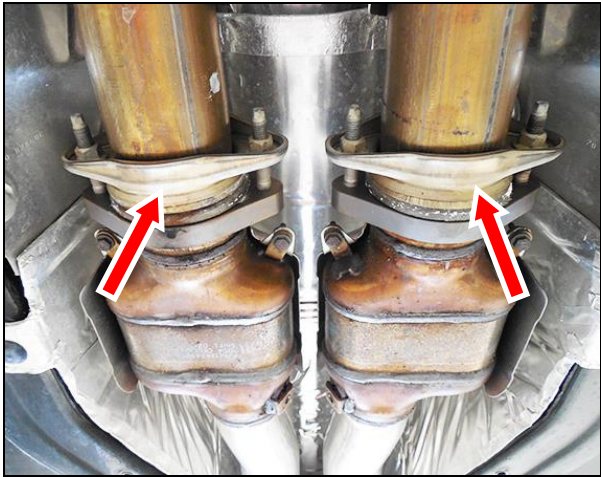
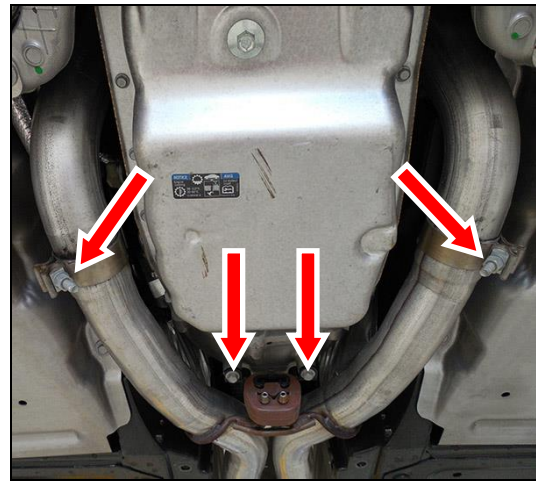

Figure 4
Figure 5
8. Support the X-pipe and remove the (x4) 15mm nuts at the flanges on the down pipes (**Figure 4**). Loosen the 15mm clamp bolts at the slip joint connecting the X-pipe to the over-axle pipes (**Figure 5**). Remove the (x2) 13mm bolts at the center support hanger on the X-pipe (**Figure 5**). Remove the X-pipe from the over-axle pipes.
6. Install the X-pipe with cats onto the down pipes and tighten the (x4) 15mm nuts to allow for adjustment. Support the X-pipe assembly. Install the center support hanger assembly and tighten the (x2) 13 mm bolts (**Figure 5**). Adjust the position of the cats if necessary and tighten the (x4) 15mm nuts (**Figure 4**). Install the 3" Torca couplers onto the outlet of the X-pipe with the bolts towards the transmission and the nuts facing down.